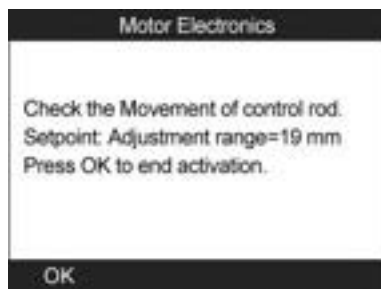

Figure 11.37
- b) Select **OK** to activate swirl flaps and the tool displays as below (Figure 11.37). Press **OK** button to end the activation and exit.